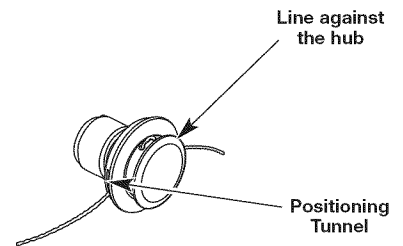

Fig. 15
5. Pull the line and make sure the line is against the hub and is fully extended through the positioning tunnels (Fig. 15).